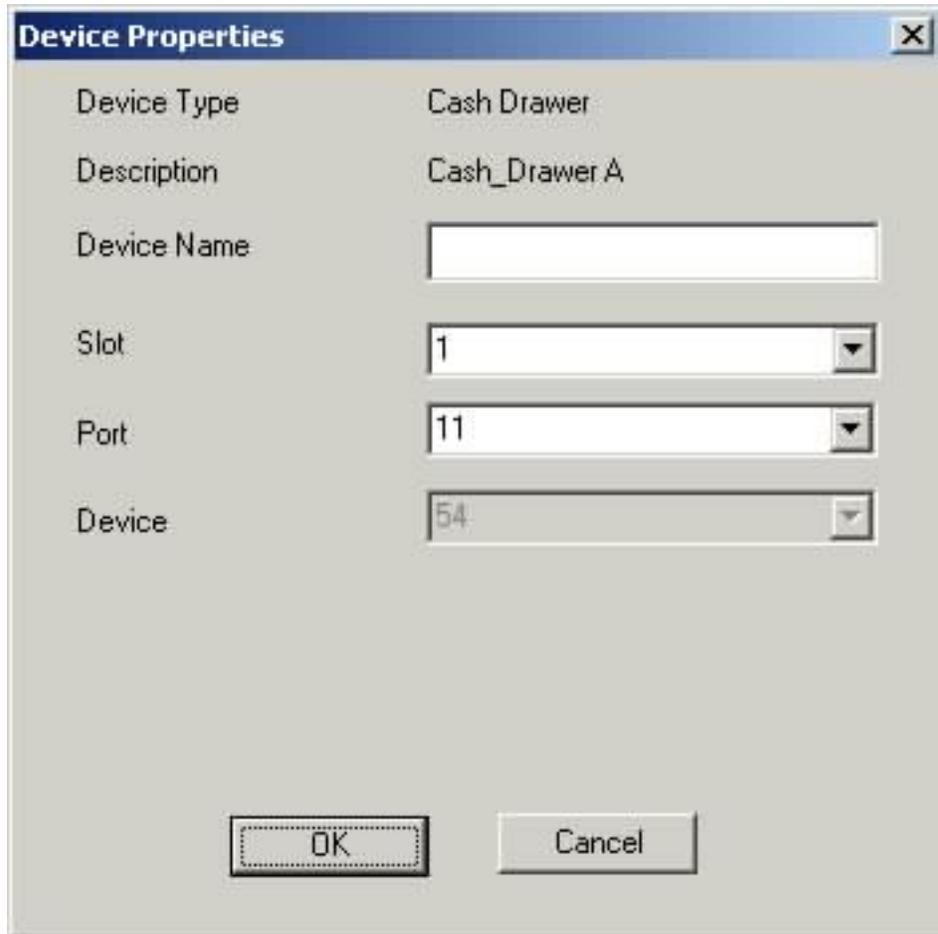
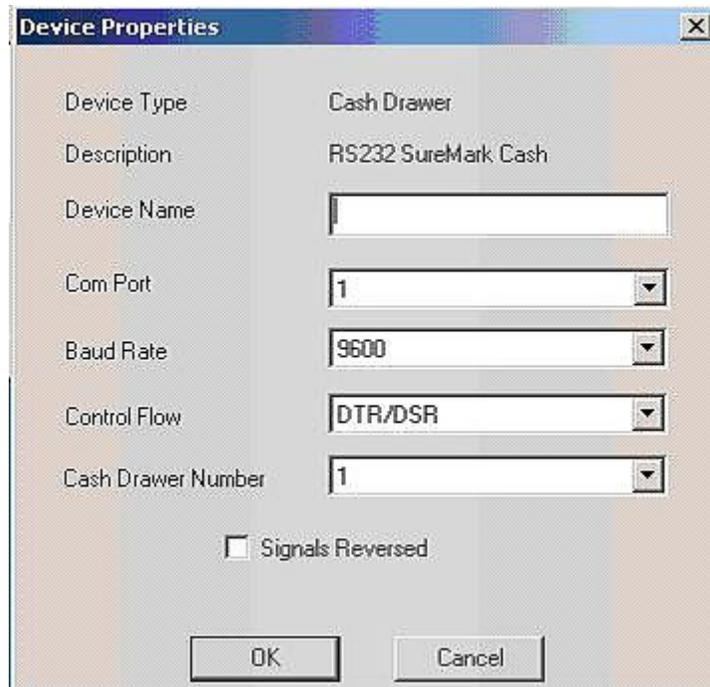

Figure 4. Device properties dialog (RS-485/USB)
Figure 5. Device properties dialog (EIA-232)
2. Click the **Configure** button to display the configuration dialog for the selected device. The dialog differs depending on the POS Terminal type and the device type. Figure 4 on page 20 shows the configuration dialog for an RS-485 or USB device; Figure 5 on page 21 shows the configuration dialog for an EIA-232 device.
4. For USB, RS-485, and System devices, select the correct slot and port for the device (see Figure 4 on page 20). Slot can have the following values:
For EIA-232, select the correct Com Port, Baud Rate, and Flow Control for the device (See Figure 5 on page 21).